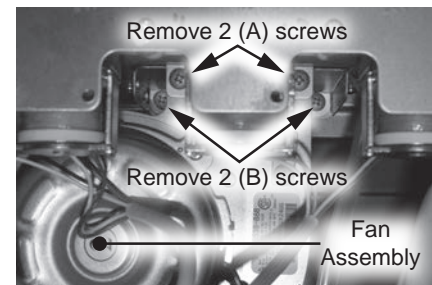
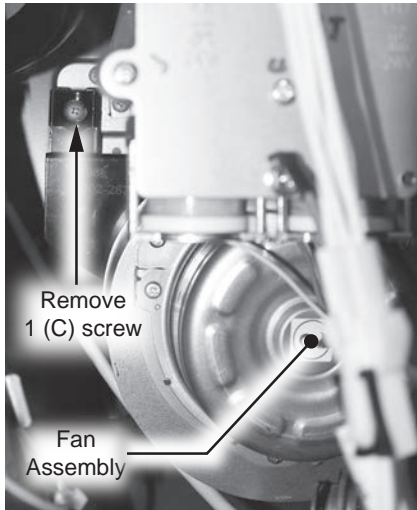

Figure 102 - Fan screw location (A & B)
Figure 103 - Fan screw location (C)
- 21** Locate the five screws securing the fan assembly to the burner. There are two screws securing the front of the fan assembly (A), two screws securing the back of the fan assembly (B), and one screw securing the fan bracket (C) to the water heater cabinet. See Figure 102 & Figure 103.